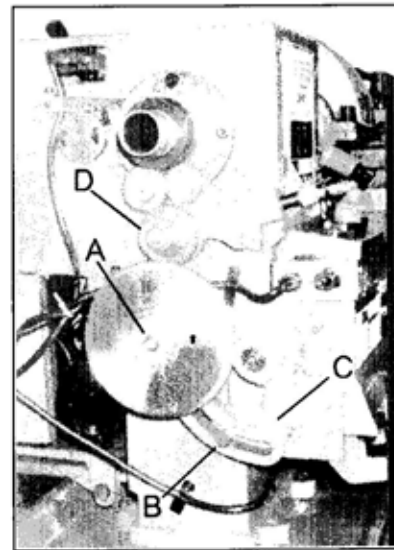

Fig. 18
3. Loosen nuts (A & B, Fig. 18)
4. Move quadrant (C, Fig. 18) out of the way and hold in place temporarily by tightening nut. (B, Fig. 18)
5. Remove hex socket cap screws (D and/or E, Fig. 18), depending on which gear is to be changed.
7. Loosen nut (B, Fig. 18), move quadrant back so teeth mesh on gears, and tighten nuts (A & B, Fig. 18). **Caution: Make sure there is a backlash of .002~.003" between gears. Setting the gear too tight will cause excessive noise and wear.**